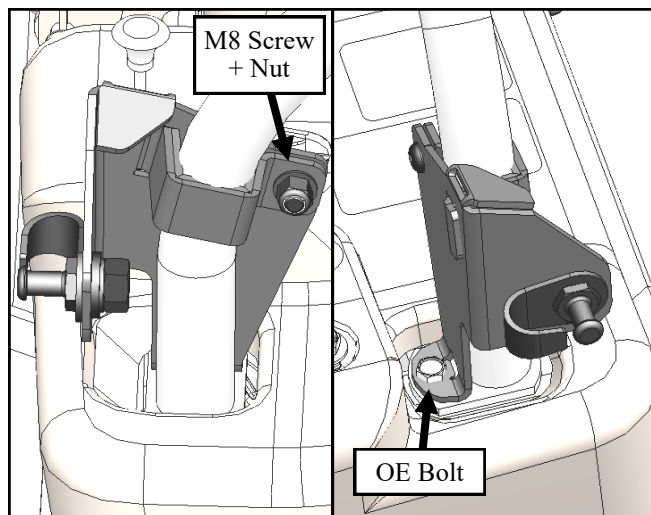

Fig. 1.3 & 1.4 (Left Latch Bracket)
- 1.3 Loosely install the bracket by wrapping the U-Clamp around the hip restraint tubing. Secure with the provided hardware. See Fig 1.3.